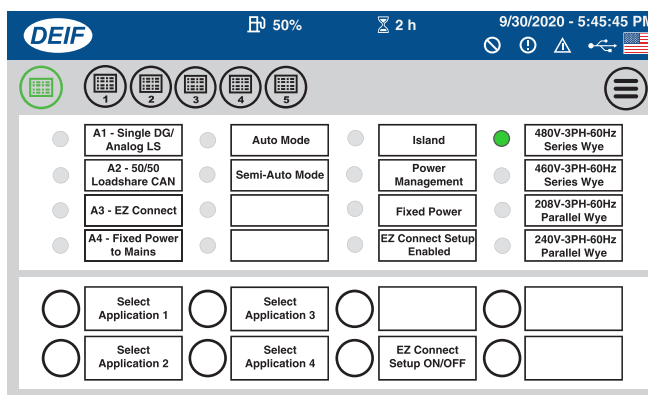
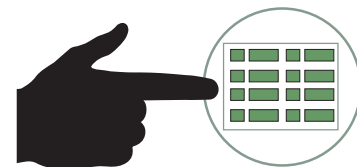

Figure 154. Main AOP Screen
Figure 155. Main AOP Button
2. Verify that the **Main AOP** screen (Figure 154) is displayed.
3. If the Main AOP screen (Figure 154) is not displayed, press the **Main AOP** button (Figure 155).